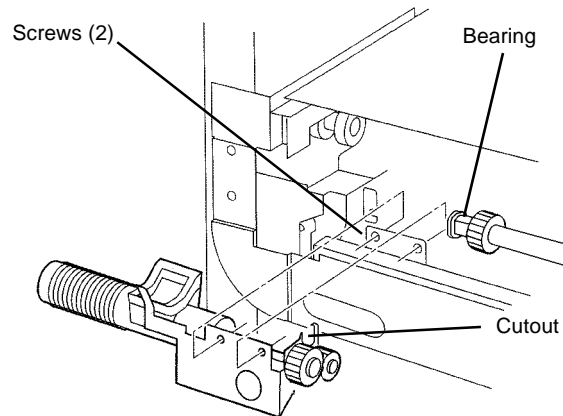

Figure 1 Removing Waste Toner Auger
7. Remove Waste Toner Agitator (Figure 1).
- a. Remove Screws (2).